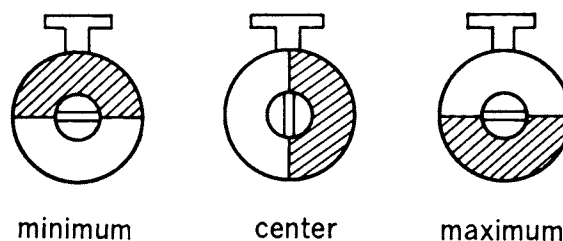

Fig. 11
2. Turn the capacitor C324 and set it at the center position as described in Fig. 11.